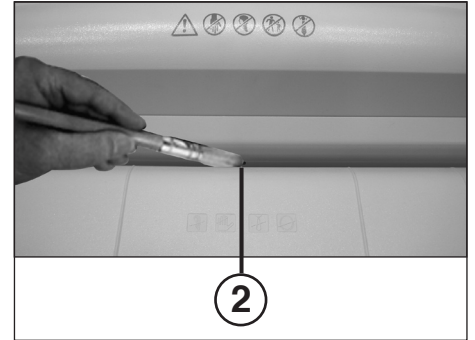

fig. 4
**CLEANING THE PHOTOCELLS (fig. 4):**